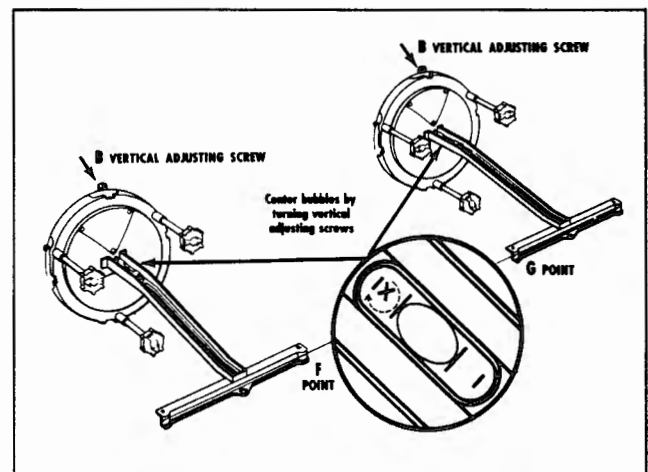

Fig. 12-66 Vertical Adjustment
a. Center bubble by turning vertical adjusting screw B (Fig. 12-66). (To insure proper location, back screw out until bubble is at end of vial. Then turn screw clockwise to center bubble.)